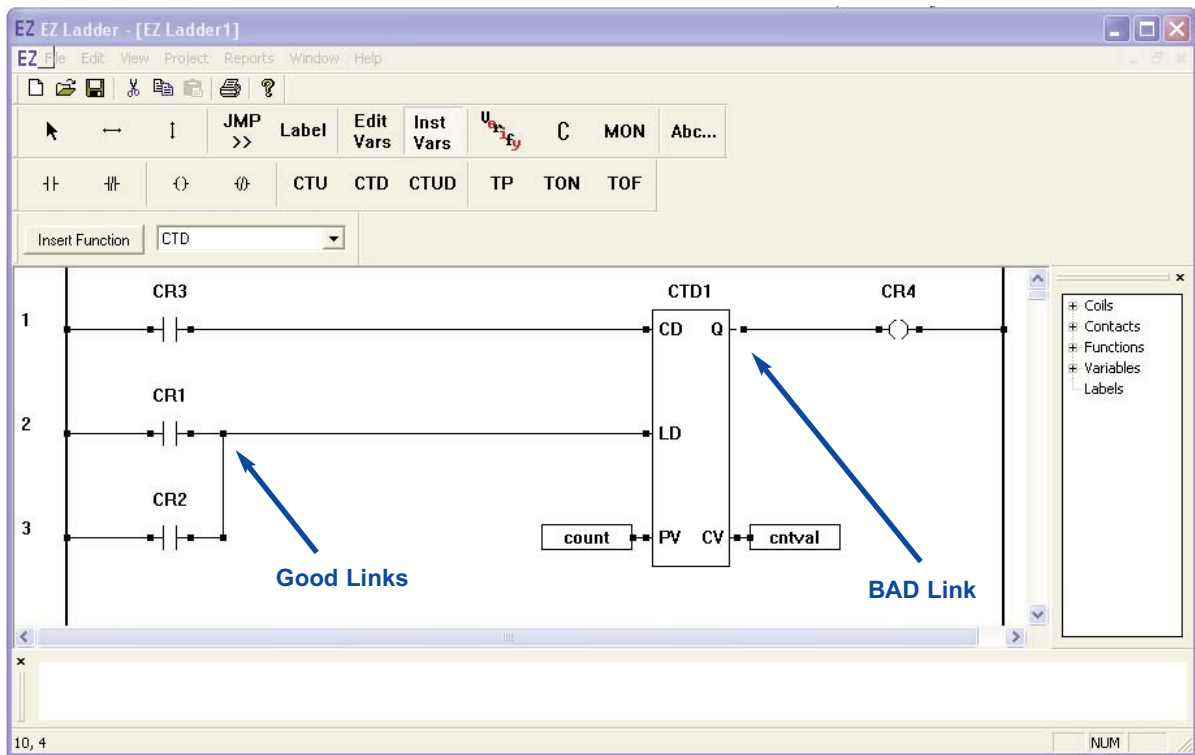

Figure 5.11
**NOTE:** When drawing links to objects and variables, the link must connect to the object for a complete circuit. If the link does not connect, then an error will occur when Verifying or Compiling the ladder diagram program. Figure 5.11 shows a connected link and a link that is not connected.